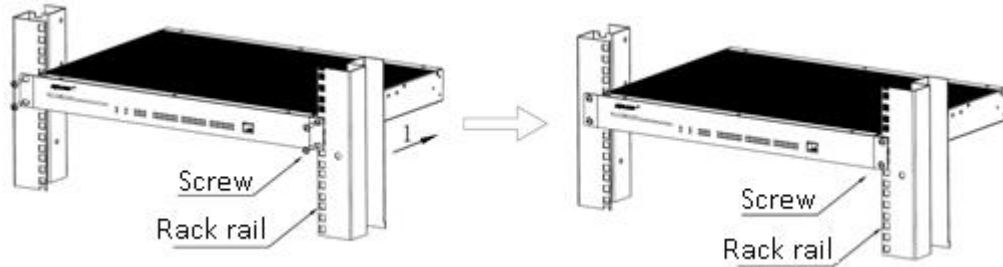

Figure 4: Mounting by front panel
Step 2: As Figure 4 shows, move the device in the direction of arrow 1 and align the holes in the SICOM3024P mounting brackets with the corresponding holes in rack rails; use 4 screws (M5×14) to fix the device on the rack.